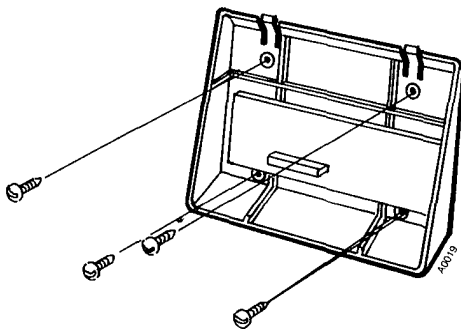

Figure 6 SECURING MOUNTING BASE TO WALL, EK-616
- Secure telephone base to wall with four ( 4 ) screws ( Figure 6 ).